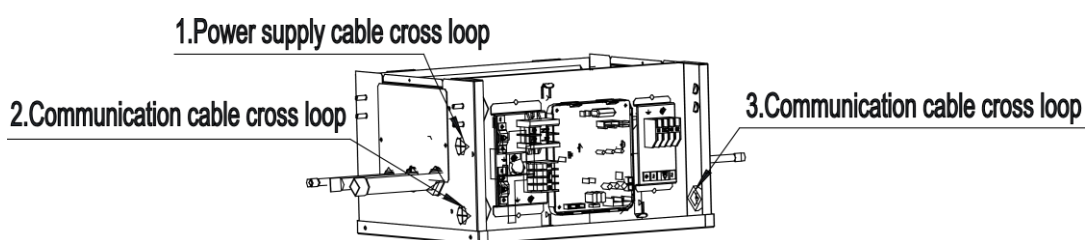

Fig.5.5
5) Take off the cable cross loop that is attached to the mode exchanger, as shown in Fig.5.5~5.8.